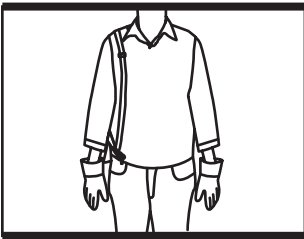

Fig. 11b
- 2). Place the harness so that it runs over the right shoulder, DON'T crossing the chest and back. The securing clip must be located at the right hip. (See Fig. 11b)